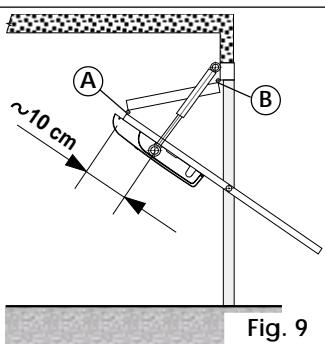

Fig. 9
- ① single section outward swinging
- ② double section outward swinging
- ③ single section inward swinging with horizontal tracks
- **double section garage door (Fig. 9)**